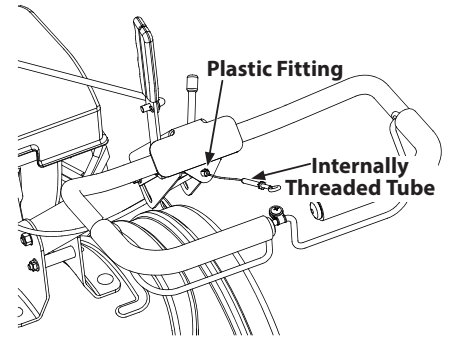

Figure 7
3. Push the cable through the hole in the center of the handle and snap into the plastic fitting. See Figure 7.